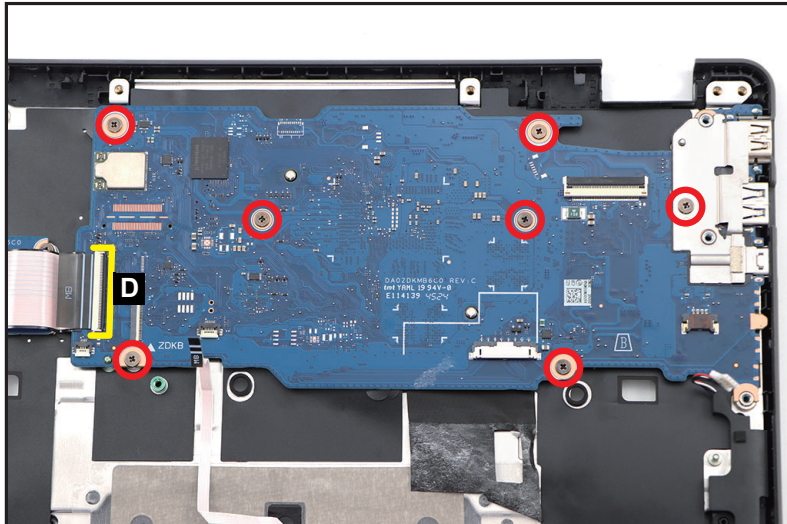

Figure 3-24. Mainboard Removal
4. Remove seven (7) screws securing the mainboard and I/O bracket (Figure 3-24).
5. Disconnect the 45-pin I/O board (H) FFC from the mainboard connector (D) (Figure 3-24).